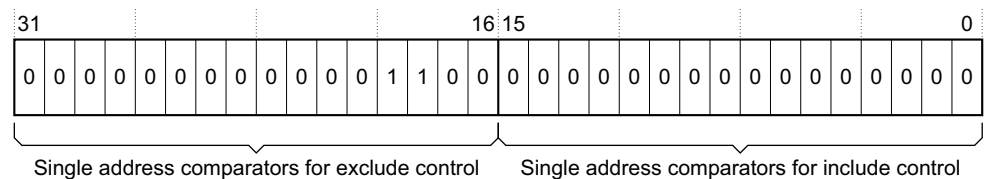

Figure 3-76 ETMVDCR1 example
2. Program ETMVDCR1 as Figure 3-76 shows.